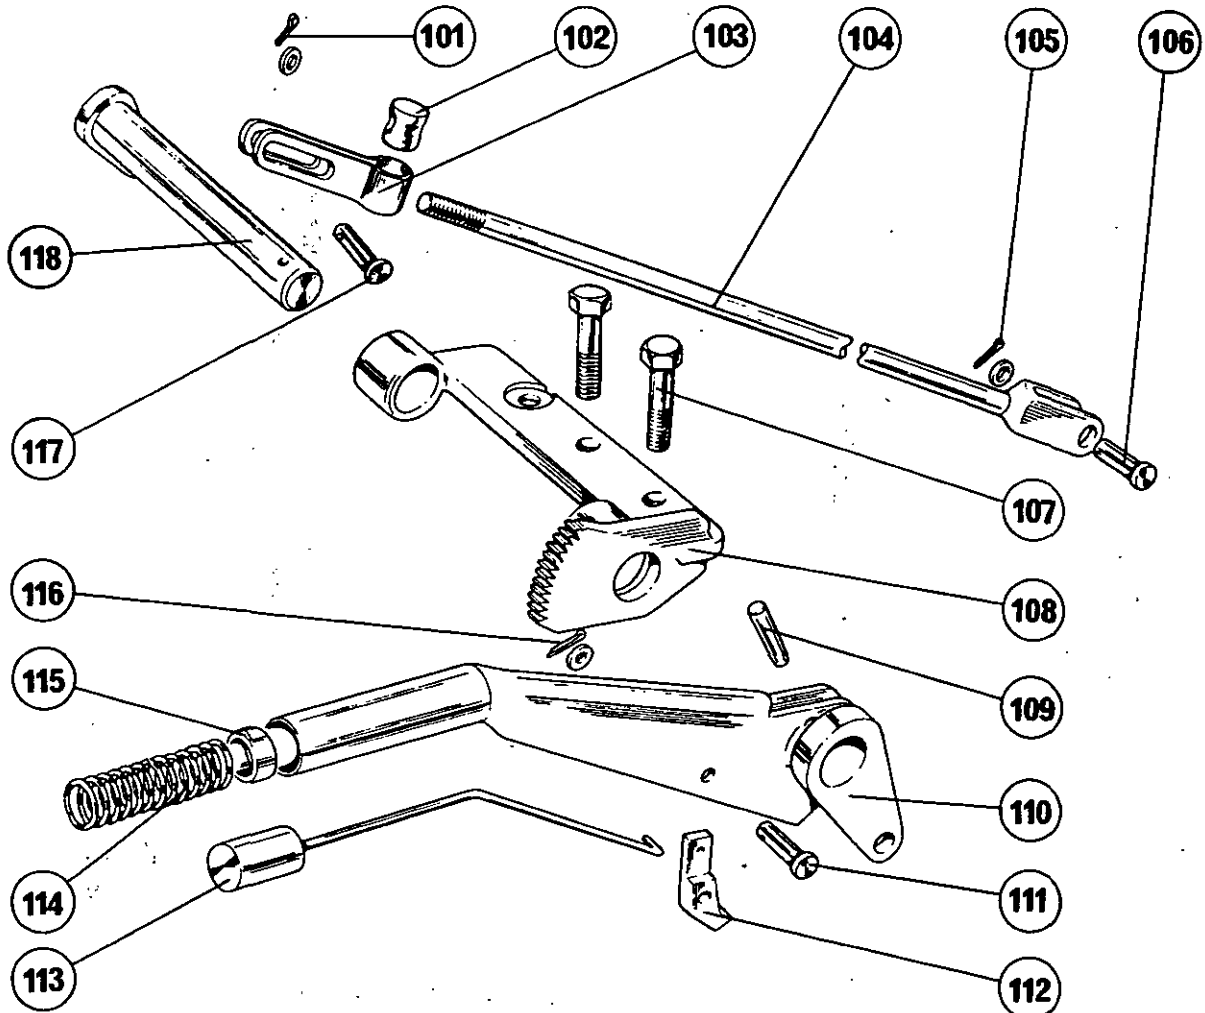

FIG. 33
1. Fig. 33. Remove the split pin (101), washer and clevis pin (117) securing the brake rod clevis (103) to the lever (110), then remove the split pin (105), washer and clevis pin (106) securing the brake rod (104) to the brake camshaft lever and lift off the rod and clevis assembly.
3. Remove the two bolts (107) securing the lever assembly to the tractor.
4. To disassemble the lever assembly, withdraw the taper pin (109), then pull the cross shaft (118) and lift off the lever (110).
5. To remove the pawl (112), remove the split pin (116), washer and clevis pin (111), then disengage the pawl from the actuator (113).
6. Pull the actuator (113), spring (114) and stop (115) from the lever.